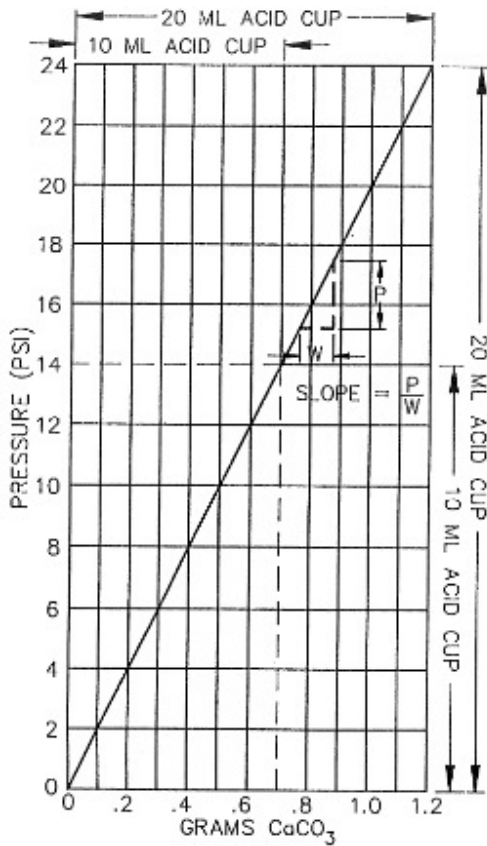

Fig. 4
The calcium carbonate and magnesium carbonate are reacted with 10 percent Hydrochloric Acid to form CO₂. This is done in a sealed reaction cell and the pressure build up due to the CO₂ is measured using either a pressure gauge or a pressure recorder. The use of a Calibration Curve, Fig. 4, determined through the use of pure Calcium Carbonate reagent allows the pressure developed to be related to the weight of calcium carbonate in the calibration sample. Several weights of sample are suggested to assure an accurate curve. These tests can be conducted using either the pressure gauge or recorder with the reaction cell. The sample can be weighed on a portable balance (10 mg Precision or better). Refer to Section 5 for calibration procedure.
Before testing, make sure the equipment is clean. Verify that a calibration curve is available for the particular equipment to be used. Should a calibration curve not be available, follow the procedures outlined in Section 5 to construct one. For an illustration of this curve Refer to Fig. 4.
Before testing, make sure the equipment is clean. Refer to Section 5 to verify that a calibration curve is available for the equipment to be used, and that the equipment uses a 20 ml acid cup. Should a calibration curve not be available, follow the procedures outlined in Section 5 to construct one using the 7 point plot. This ASTM test specifies the use of a 1.00 gm test specimen. For an illustration of the 7 point plot Refer to Fig. 4.
E. Plot grams of CaCO₃ for each sample verses final pressure reading for each sample on linear graph paper. Draw a straight line averaged through these points. A sample graph for the four point plot and the addition for the 7 point graph is shown in Fig. 4. Larger samples of CaCO₃ cannot be reacted using the 10 ml acid cup.
F. Note the linear relation between the pressure and sample size, therefore this curve may be assumed to be a straight line, and its slope will be a constant. As illustrated in EXAMPLE of Fig. 4 the slope of the curve is 2 psig / .1 gm CaCO₃, or 20 psig / 1.0 gm sample, resulting in a slope of 20. Therefore the Calibration Factor in this case is 1/20 = .05 x 100 or 5. This number is the slope or average slope for the particular equipment calibrated. It is a function of the volume of the reaction cell. As shown by equations [5] and [6] below the slope can be written as a "Cell Factor" to multiply the pressure reading by to directly obtain percentages of Calcium Carbonate and Dolomite. This is an example only.